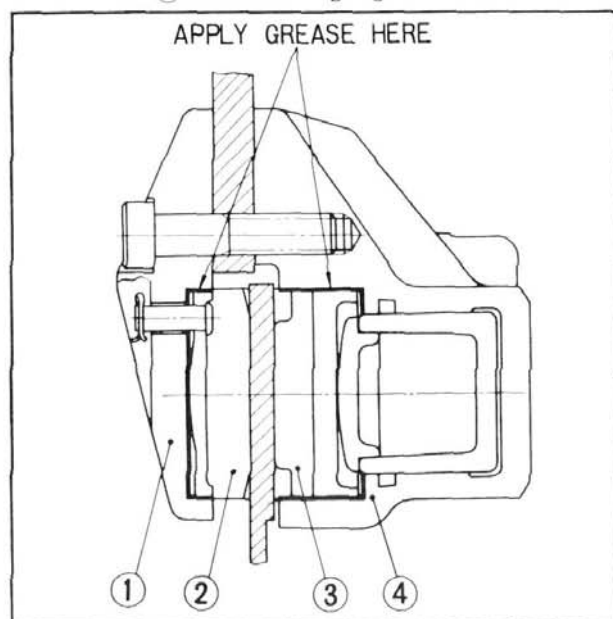

Fig. 14-12 ① Caliper B ③ Pad A
- Before mounting the pads A and B, apply a small amount of the specified grease (0.3~0.5 g) evenly on the caliper as shown in Fig. 14-12. When mounting the pads, take care not to smear the braking surface of the pad with grease. The applied grease serves to prevent dust and water from entering the pad sliding surface, as well to lubricate the sliding surface in order to ensure the smooth operation of the pads.